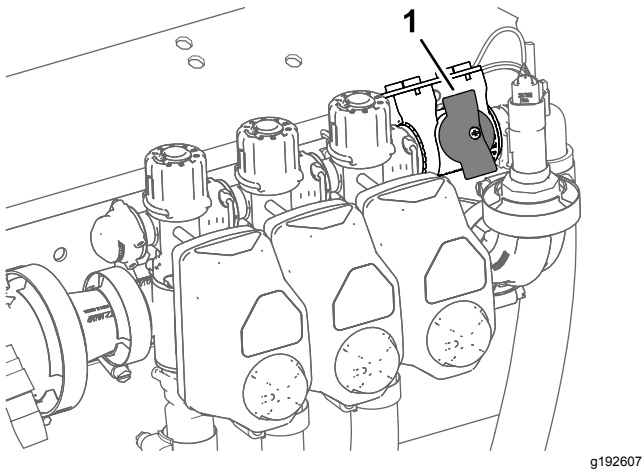

Figure 40
4. For machines operated in the application-rate mode, ensure that the knob for the section-bypass shutoff valve is in the closed position (Figure 40).
5. For machines operated in the application-rate mode, ensure that the section-bypass shutoff valve is closed (Figure 40).